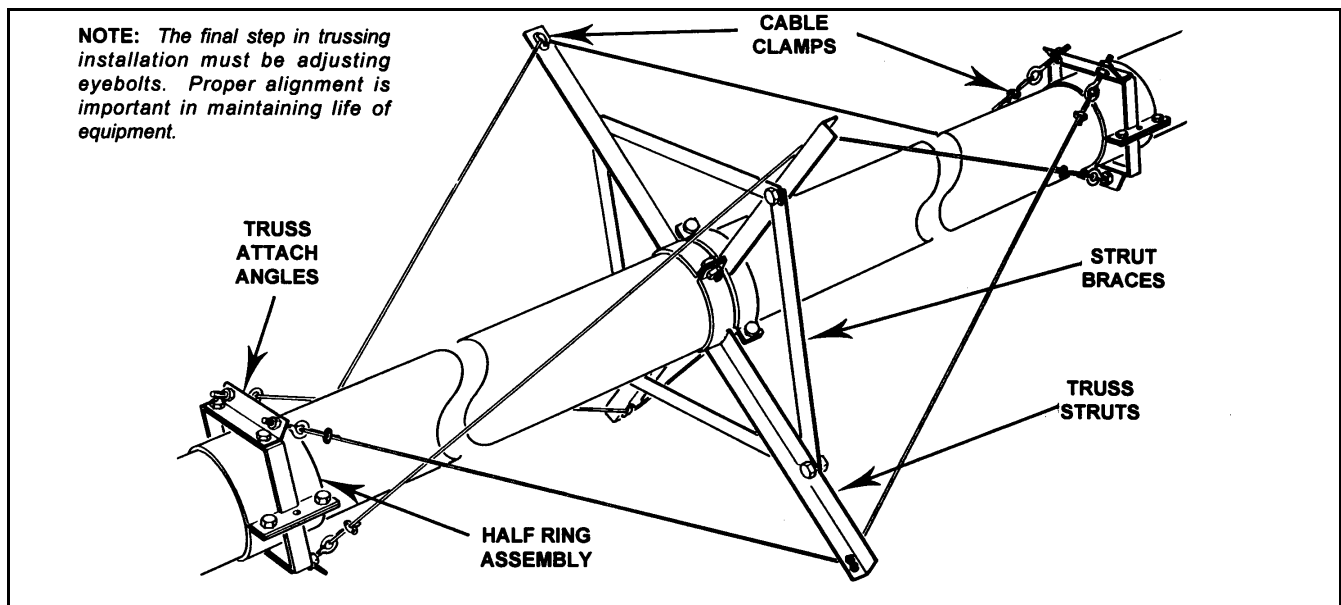

Figure 3.8
See Figure 3.8.
2. Attach strut braces (Figure 3.8) with 7/16" x 1" bolts and locknuts and secure.